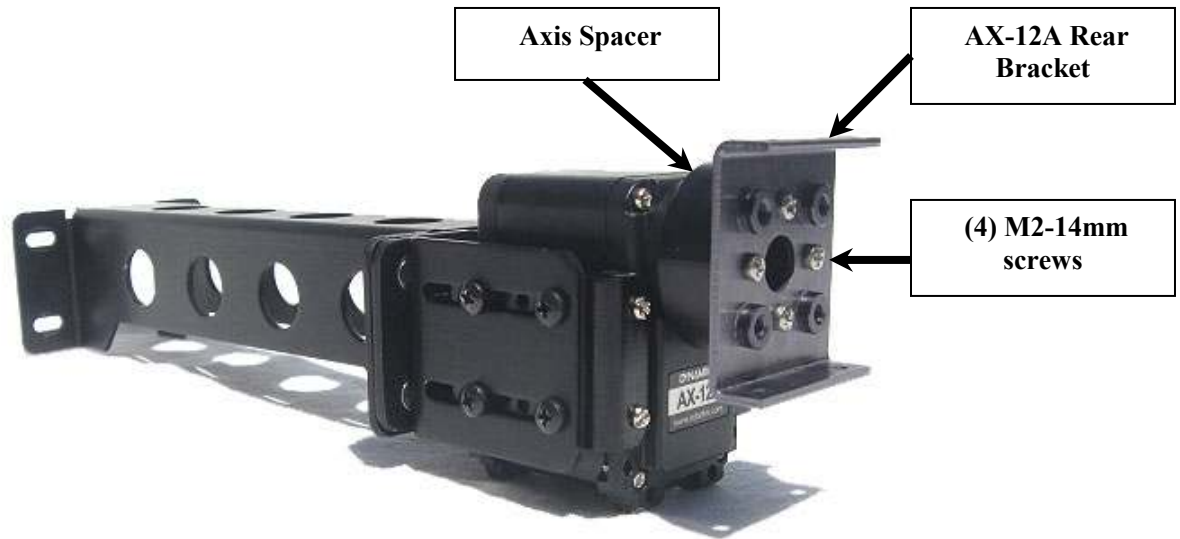

Figure 70
6. Using (4) M2-14 mm screws, install the axis spacer and AX-12A rear bracket from the dual gripper assembly to the AX12A/18A servo as illustrated in figure 70.